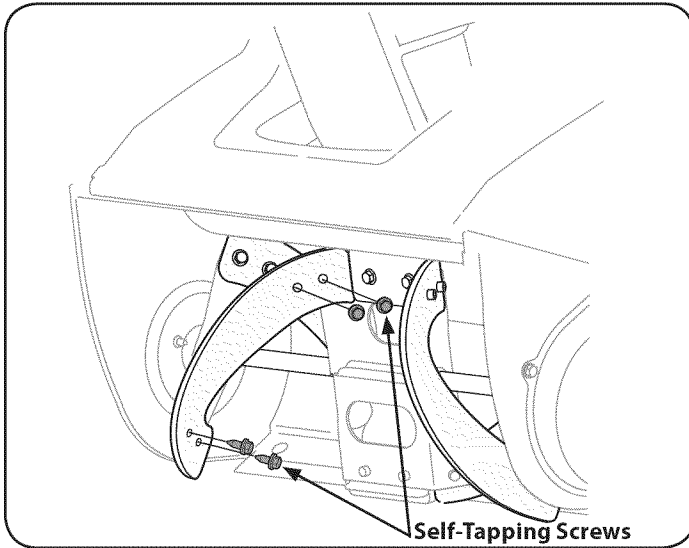

Figure 20
1. Remove the existing rubber paddles by unscrewing the self-tapping screws which secure them to the auger. See Figure 20.